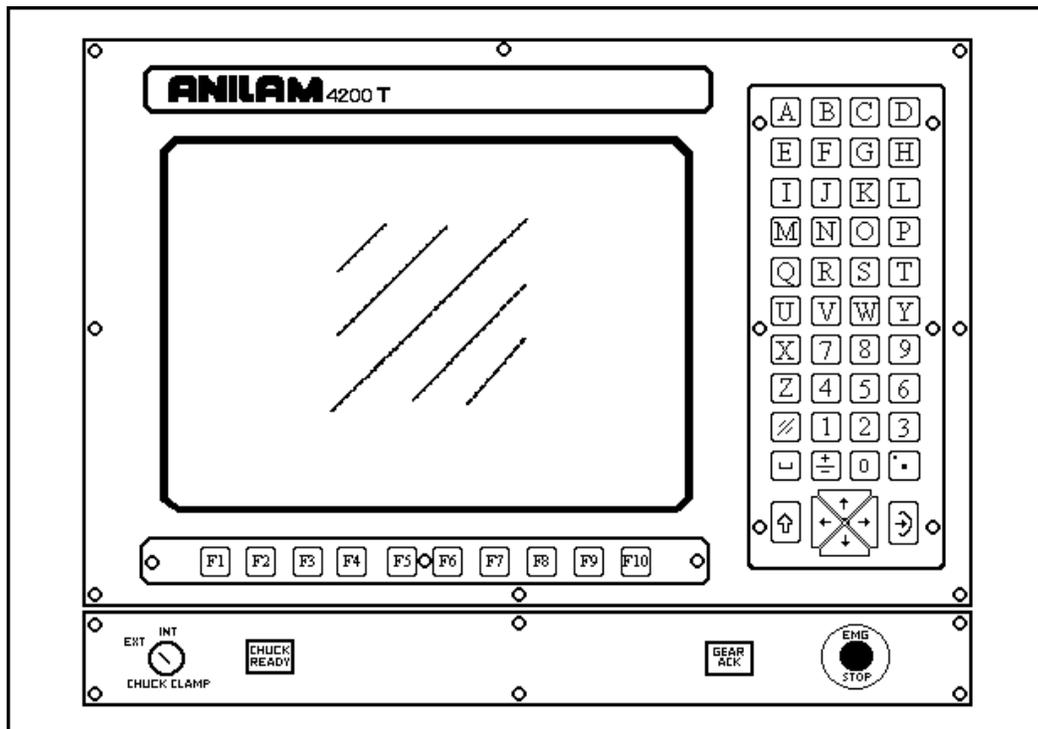
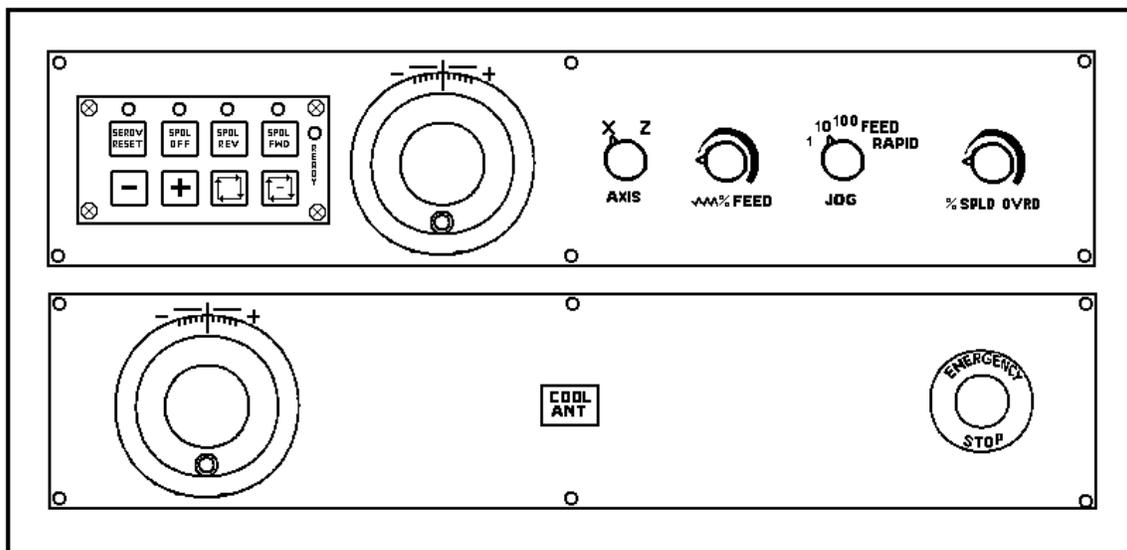
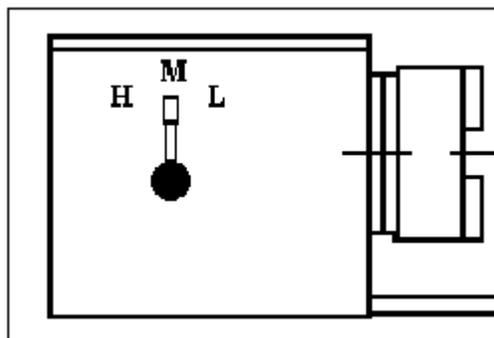

Figure 5-1
Figure 5-2
Figure 5-3
Turn on the main disconnect on the rear of the machine. (Figure 4-2) After the computer has booted up the software version screen will appear. (See figure 5-1) Push F10 (Soft-key 10) to continue. Then a selection menu is displayed on the screen, with the cursor keys, highlight CNC Control and push ENTER starts CNC software. Release the E-STOP push button and push Servo Reset.
When at the main CNC screen push the shift key a new set of function keys will be displayed. Select HOME, All axis will be homed with the X-axis homing first. Or at the command line type "G28 X Z" then push cycle start. (See figure 5-1)
Set the jog selector switch on the operator panel (see figure 5-2) to FEED and the axis selector switch to the axis to be jogged then use the + / - keys to jog the axis. The % Feed override selector switch will modify the feed rate
Set the jog selector switch on the operator panel (see figure 5-2) to RAPID and the axis selector switch to the axis to be jogged then use the + / - keys to jog the axis. The % Feed override selector switch will modify the feed rate.
Select Hand-wheel (F10) from the soft-keys below the screen (see figure 5-1), If the machine is supplied with two hand wheels, then you only have to select the increment value from the operator panel using the jog selector switch and use the top hand wheel mounted on the operator panel for X axis and the lower hand wheel for Z axis. (See figure 5-2) If the machine was supplied with one hand wheel then you must select the axis and the increment value from the operator panel and use the hand-wheel to move the axis. The newer hand wheel supplied has on board axis selector switches so you are not require to use the manual panel.
Select an increment value from the jog selector switch (see figure 5-2), and the axis to be jogged. Each time the + / - button is pressed the axis will move in the selected direction by the increment value selected. The % Feed override selector switch will modify the feed rate. (See figure 5-2).
In order to run the spindle you must first program and select a gear range M41-Low speed, M42-Medium speed, and M43-High speed. Enter a spindle speed range by using either a G97 direct spindle speed or G96 constant surface speed. Then by entering a speed command S10 to S2000 being the top speed of the lathe. You will find this on the gear range nameplate on the headstock. Then enter the direction of rotation M3 (C.W) or M4 (C.C.W.) on the COMMAND line and push the CYCLE START key. The spindle may be stopped and started in both C.W and C.C.W. from the operator panel by pushing the SPDL STOP, SPDL FWD and SPDL REV push buttons. The % SPDL override selector switch on the Operator panel will modify the spindle speed (see figure 5-2)
M41 Then push CYCLE START a message will prompt you to select the low gear, At this point you must move the gear range lever to low gear (see figure 5-3) and then push the GEAR ACK button (see figure 5-1) in order for the control to know that the gear has been selected.
M42 When you push CYCLE START a message will prompt you to select the medium gear, At this point you must move the gear range lever to medium gear (see figure 5-3) and then push the GEAR ACK push button (see figure 5-1) in order for the control to know that the gear has been selected.
Your machine will have a chuck internal or external key switch (see figure 5-1). This key switch is used to tell the control if you are setting up for internal or external chucking, as this will change the state of the chuck in the clamped or unclamped position. There is also a chuck ready lamp to let you know when the CNC thinks the chuck is clamped, Thus O.K. to run the spindle. The spindle will not run when the chuck is in the unclamped position and the chuck ready lamp is not on.